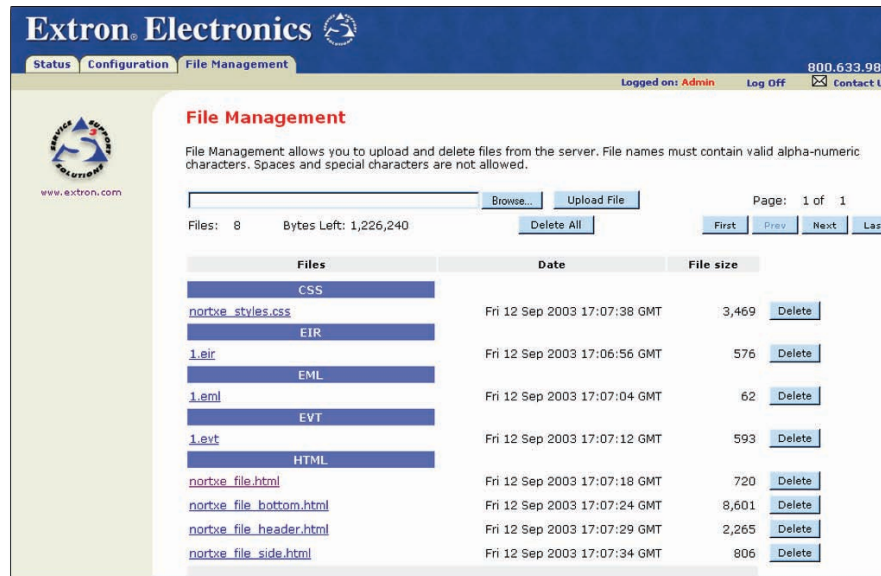

Figure 20. File Management Screen
1. Select the **File Management** tab. The File Management screen (figure 20) is displayed.
1. Select the **File Management** tab and the File Management screen (figure 20) is displayed.